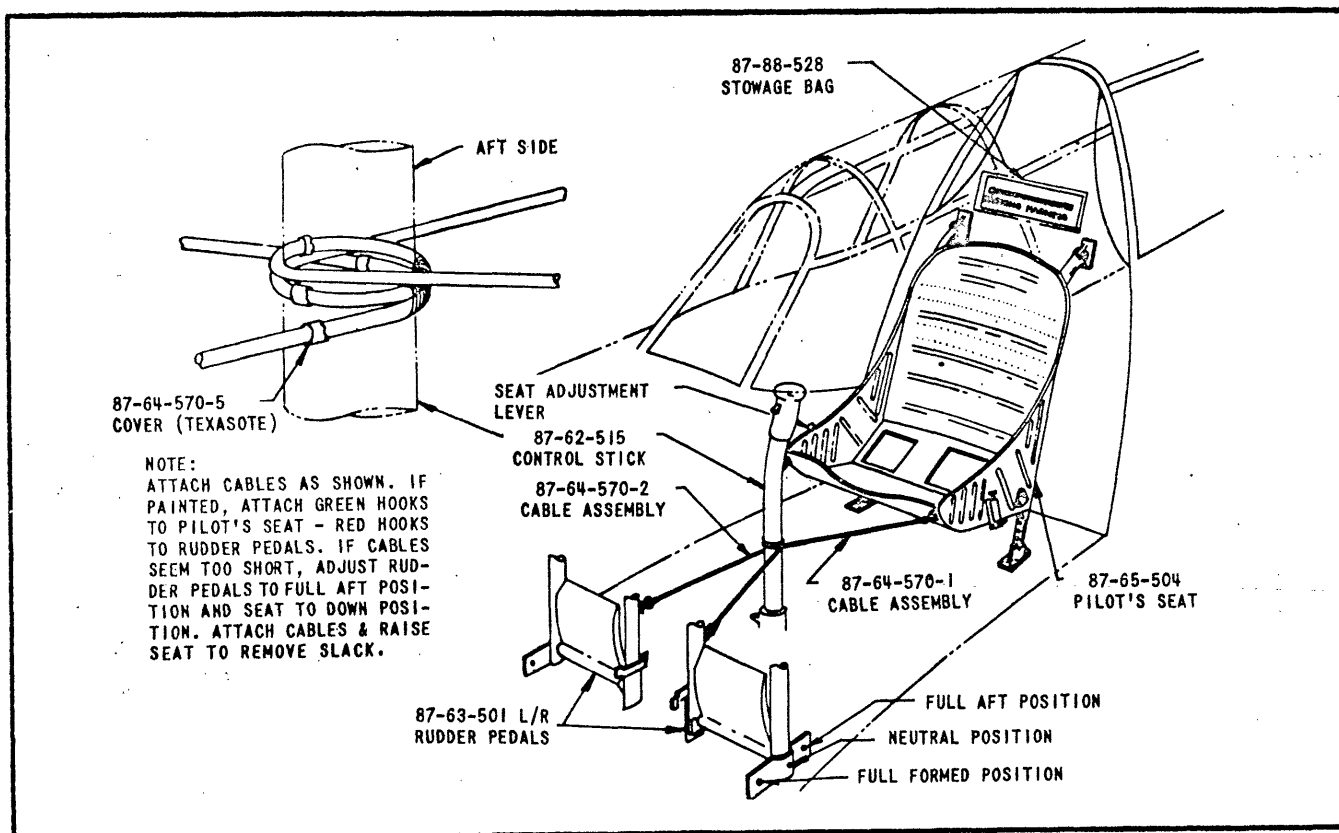

Figure 17 - Parking Harness Attached
(2) The control surfaces are locked by rigging the parking harness (87-64-570) around the control stick. Attach the cables as shown in figure 17. If the hooks are painted, attach the green hooks to the pilot's seat and the red hooks to the rudder pedals. If the cables seem too short, adjust the rudder pedals to the full aft position and the seat in the down position. Attach the cables and raise the seat to remove the slack. In some rare cases it may be necessary to wrap the harness around the stick below the electric conduit plug on the control to gain enough slack to engage all the hooks.